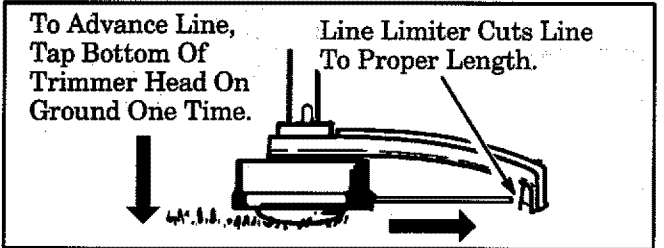

Figure 10
- Always keep the shield in place when the tool is being operated. Figure 10 .
3. Tap bottom of trimmer head lightly on ground one time. See Figure 10 . Approximately 2 inches of line will be advanced with each tap.